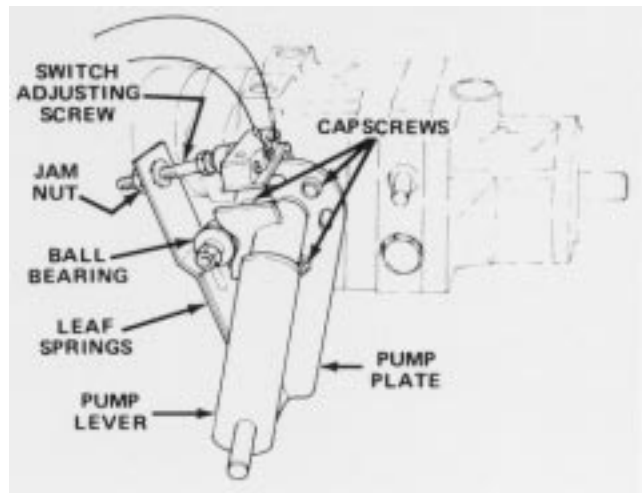

Figure 51
1. Park vehicle on a level surface and turn engine off. Apply the parking brake, tip seat forward, and actuate pump lever (Fig. 51) to insure assembly is properly seated and operating freely. Correct any discrepancy.
6. Because the wheel is rotating, the pump plate must be adjusted. But before adjusting the pump plate, move throttle to SLOW. If wheel is rotating forward, loosen capscrews, and lightly tap bottom of pump plate counterclockwise (Fig. 51). By contrast, tap pump plate clockwise if wheel is rotating backward (Fig. 51). When wheel stops rotating, tighten capscrews holding pump plate against side of transmission. Verify the adjustment with throttle in SLOW and FAST position.
- A. Ball bearing is loose or worn out (Fig. 51).
- F. Weak or damaged leaf springs (Fig. 51). Replace.
- 2. Actuate the pump lever (Fig. 51) to insure all parts are operating freely and seated properly.
- 3. Loosen jam nut. Rotate switch adjusting screw (Fig. 51) until there is a gap between head of screw and switch button.